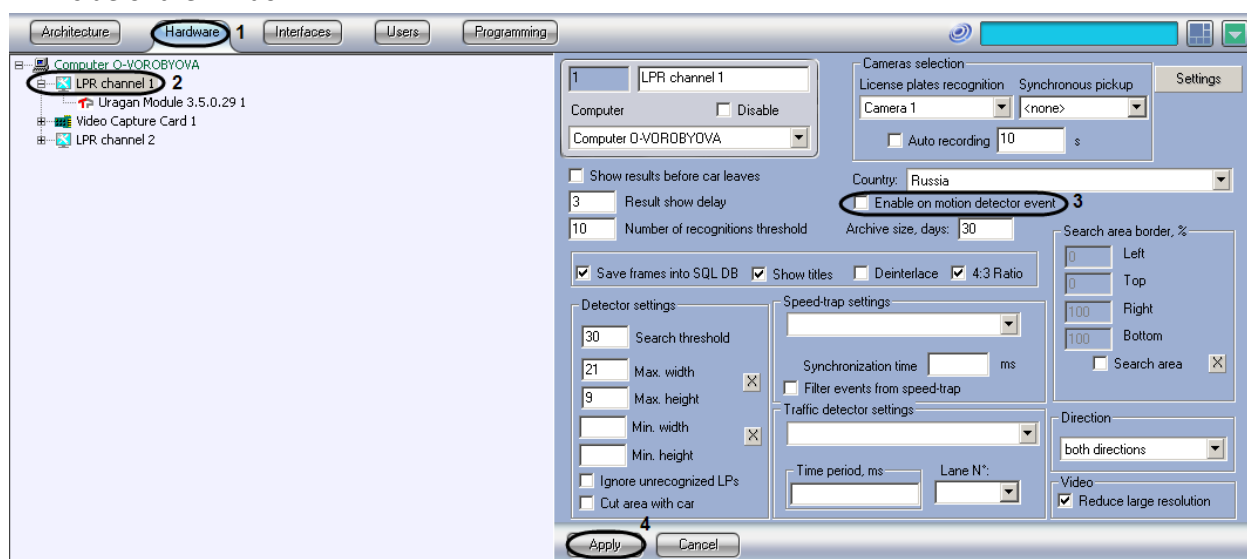

Fig. 7.2—18 Setting the LPR channel and the Intellect motion detector
2. In the object tree on the left side of the Hardware tab, select the LPR channel, corresponding to the activated Auto-Uragan 3.5.0.29, CARMEN-Parking, CARMEN-Auto or ACCR program module in the objects tree on the Hardware tab (see. «Program module activation, used for Plates identification», Fig. 7.2—18, 2). The settings panel of the selected object will open on the right side of the window.